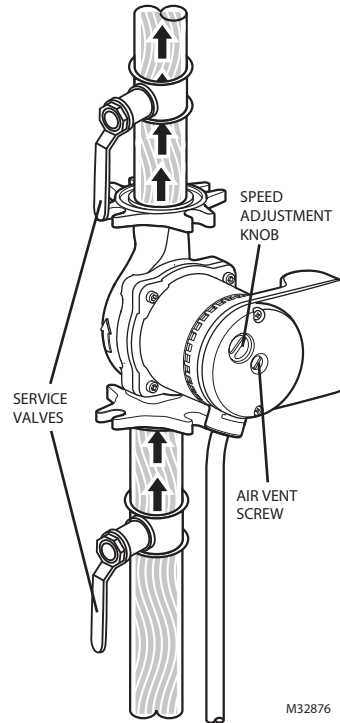

Fig. 9. Bleed the circulator by loosening the air vent screw.
- Turn the speed adjustment knob clockwise to increase the speed (see Fig. 9).
|                          | Rotor/shaft stuck                              | <ul style="list-style-type: none"> <li>Isolate the pump from the power supply.</li> <li>Remove the vent screw (see Fig. 9).</li> <li>Turn the shaft clockwise using a small screwdriver.</li> <li>Screw in the vent screw.</li> <li>Switch on the pump.</li> </ul> |